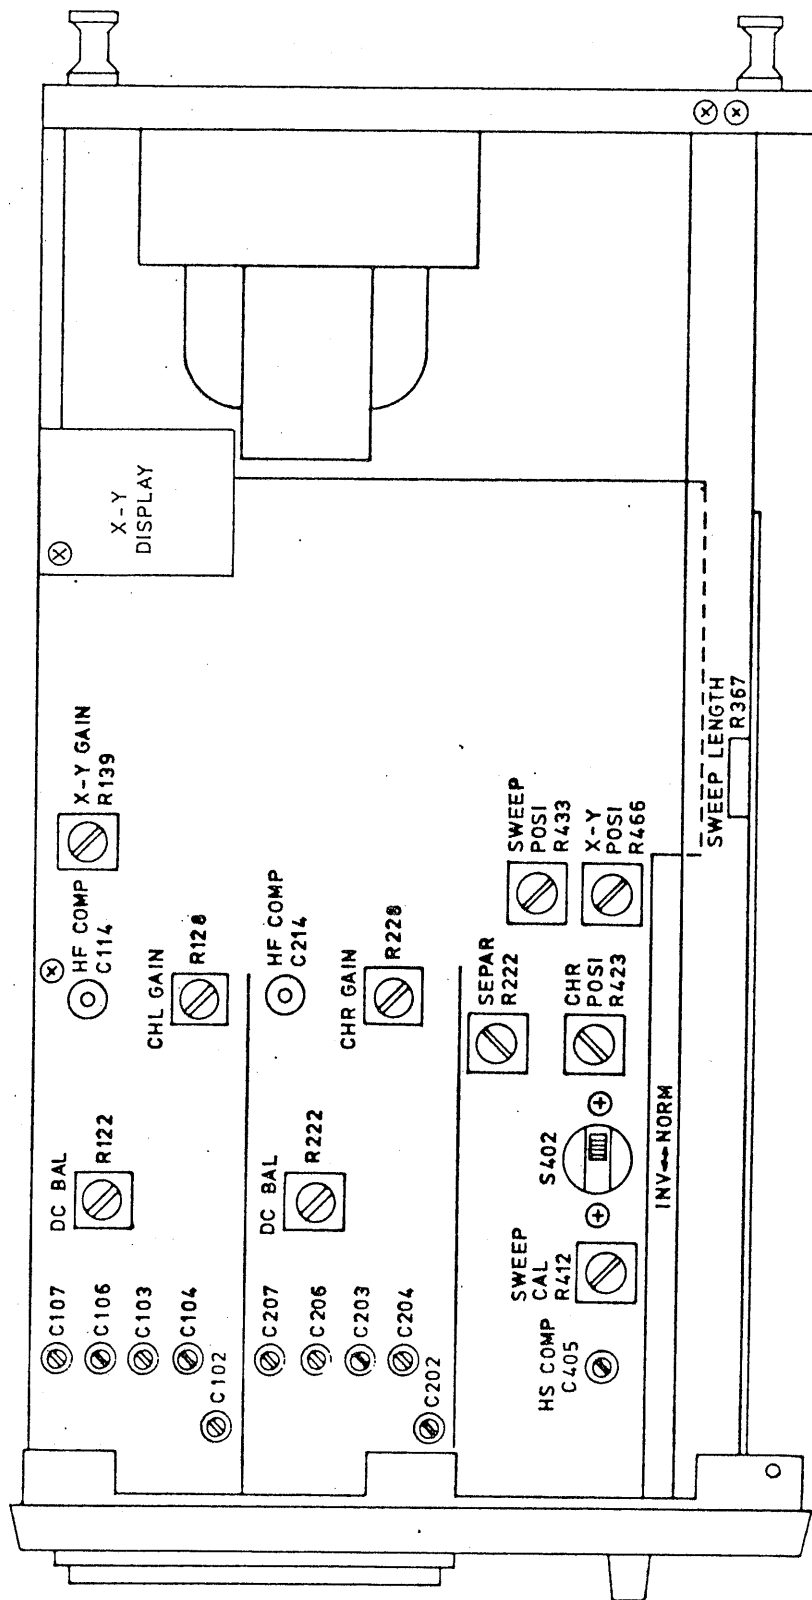

Fig. 26
- (1) Set the VOLTS/DIV switch (14) or (16) in the GND range and display the trace on the CRT screen.
- (2) Turning the VARIABLE knob, so adjust the DC BAL control that the shift of the trace becomes minimum. (See Fig. 26)
- (1) Set the pulse wave generator output at 40 mV and apply this signal to the vertical INPUT terminal.
- (2) Set the VARIABLE knob in the CAL position and the VOLTS/DIV switch in the 10 mV position, and so adjust the GAIN ADJ control (Fig. 26) that the deflection amplitude on the CRT screen becomes as set in 4 DIV.
(See Figs. 26 and 28.)
This adjustment includes SWEEP POSITION adjustment, SEPARATION adjustment and SWEEP LENGTH adjustment. (See Fig. 26.)
- (2) Set the TIME/DIV switch (23) at the 100 μ S position.
- (3) So adjust the SWEEP POSITION control that the CHL and CHR traces end at the center of the graticule.
- (4) So adjust the SEPARATION control that the two traces start at the two ends on the graticule.
- (5) So adjust the SWEEP LENGTH control (R367) that the ends of the CHL and CHR traces are spaced 0.2 DIV.
- (6) Check again the SWEEP POSITION and SEPARATION adjustments.
- (7) Apply a timer marker signal of 100 μ sec to the CHL and CHR input terminals.
- (8) So adjust SWEEP CAL control (R412, Fig. 26) that the periods of the displayed signal waveform conform with graticule lines. (See Section 6.5 Adjustment of Time base.)
- (1) Set the TIME/DIV switch at the 100 μ S position, apply a time marker signal of repetition period 100 μ sec or a sine wave signal of frequency 10 kHz to the vertical input terminal, and so adjust the input signal amplitude or the oscilloscope sensitivity that the signal is displayed with an appropriate deflection amplitude on the CRT screen.
- (2) So adjust the SWEEP CAL control (Fig. 26) that the periods of the displayed waveform conform with graticule lines.
- (3) Next, apply a 1- μ sec time marker signal or a 1-MHz sine wave signal to the vertical input terminal signal and set the TIME/DIV switch at the 1 μ S position.
- (4) So adjust the HS COMP control (C405, Fig. 26) that the displayed waveform periods conform with graticule lines.
- (5) Check again for the 100 μ S range as Step (1) above.
- (1) For both CHL and CHR, set the VOLTS/DIV switch in the GND range and so set the horizontal POSITION knobs (29) that their white dot marks are positioned in the upright position (noon high position).
- (2) Set the vertical MODE switch in the X-Y state (10), and so adjust the X-Y POSITION (R466, Semi-fixed resistor, see Fig. 26) that the spot is displayed on the center line of the graticule.
- (1) Set the oscillator output signal at 100 mVp-p and apply this signal to the X-axis input terminal.
- (2) So adjust the X-Y GAIN control (R139, Fig. 26) that the signal deflection amplitude becomes the full scale of the graticule.